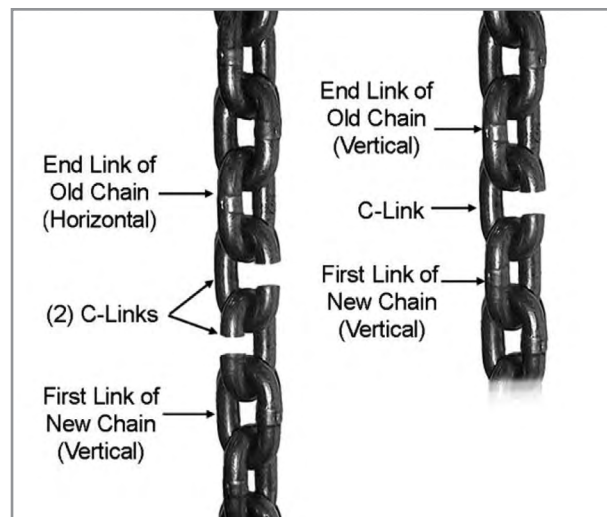

Figure 18
4. Using a C-link(s), connect the new chain to the old chain. If the end link of the old chain is horizontal, use two C-links. If the end link of the old chain is vertical, use one C-link. See Figure 18. Using the correct number of C-links will properly orient the chain and ensure that the first link on the load side end is a vertical link.